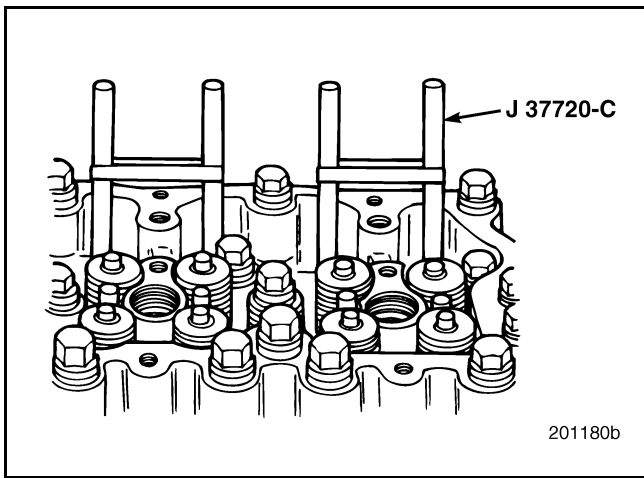

Figure 450 — Valve Lifter (Tappet) Holder Tool J 37720-C
- Secure the lifter in the UP position with grommets provided with the tappet holders. The holding tool shafts of two adjacent valve lifters can be prevented from dropping by wrapping a rubber band around the two shafts. This draws the shafts together and holds them in position. Refer to Figure 450.
4. Secure the lifter in the UP position with grommets provided with the tappet holders. The holding tool shafts of two adjacent valve lifters can be prevented from dropping by wrapping a rubber band around the two shafts. This draws the shafts together and holds them in position. Refer to Figure 450.